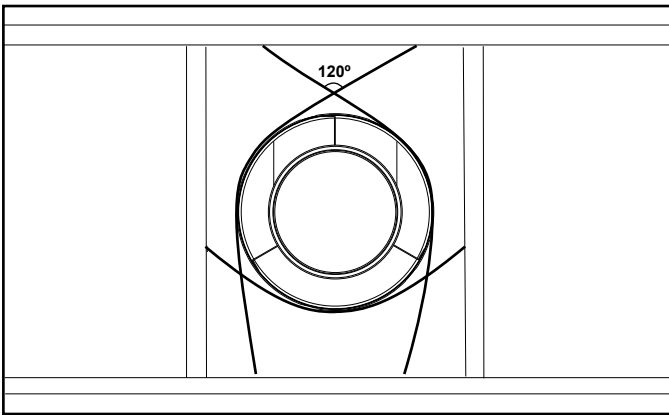

Figure 7.8 Securing Vertical Pipe Sections
- Vent supports or plumbers strap (spaced 120° apart) may be used to support vent sections. See Figures 7.8 and 7.9.